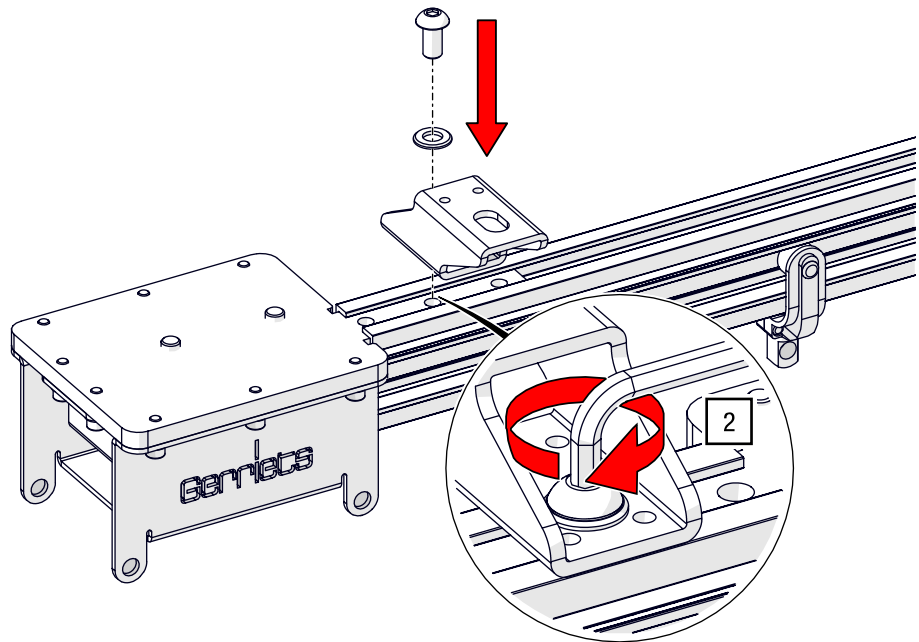

Fig. 68: BELT-TRACK deflection unit – Fasten to track
2. Screw the suspension to the web and track profile with an Allen key AF 6 (see Fig. 68).